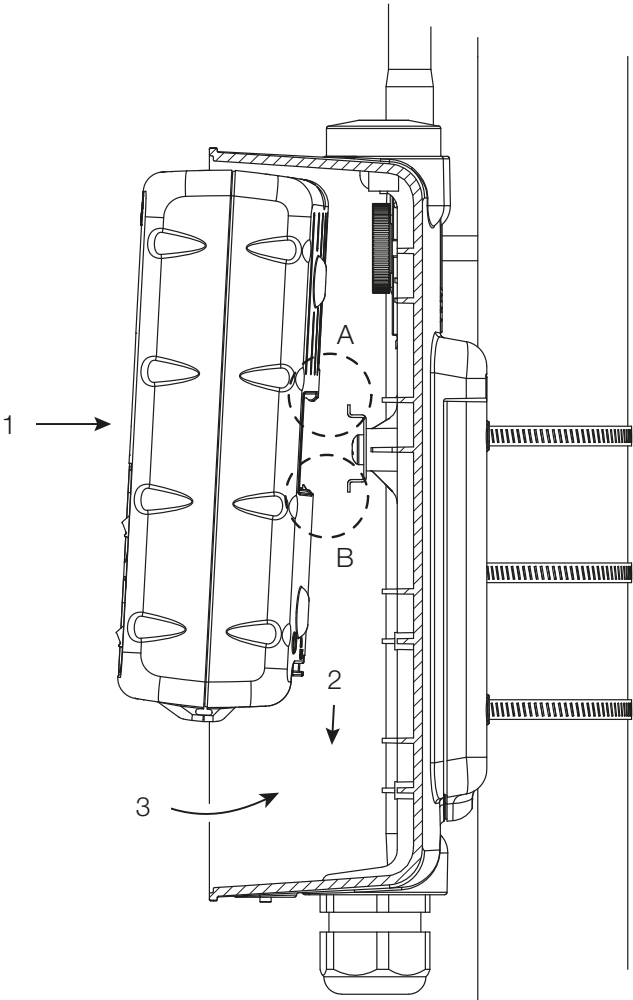

Figure 11. C3 Module Mounting
- Mount inside Solar Enclosure via pull tab and DIN rail mount (Figure 11, proceed in order 1-2-3, hook over DIN rail at point A, clip at point B).